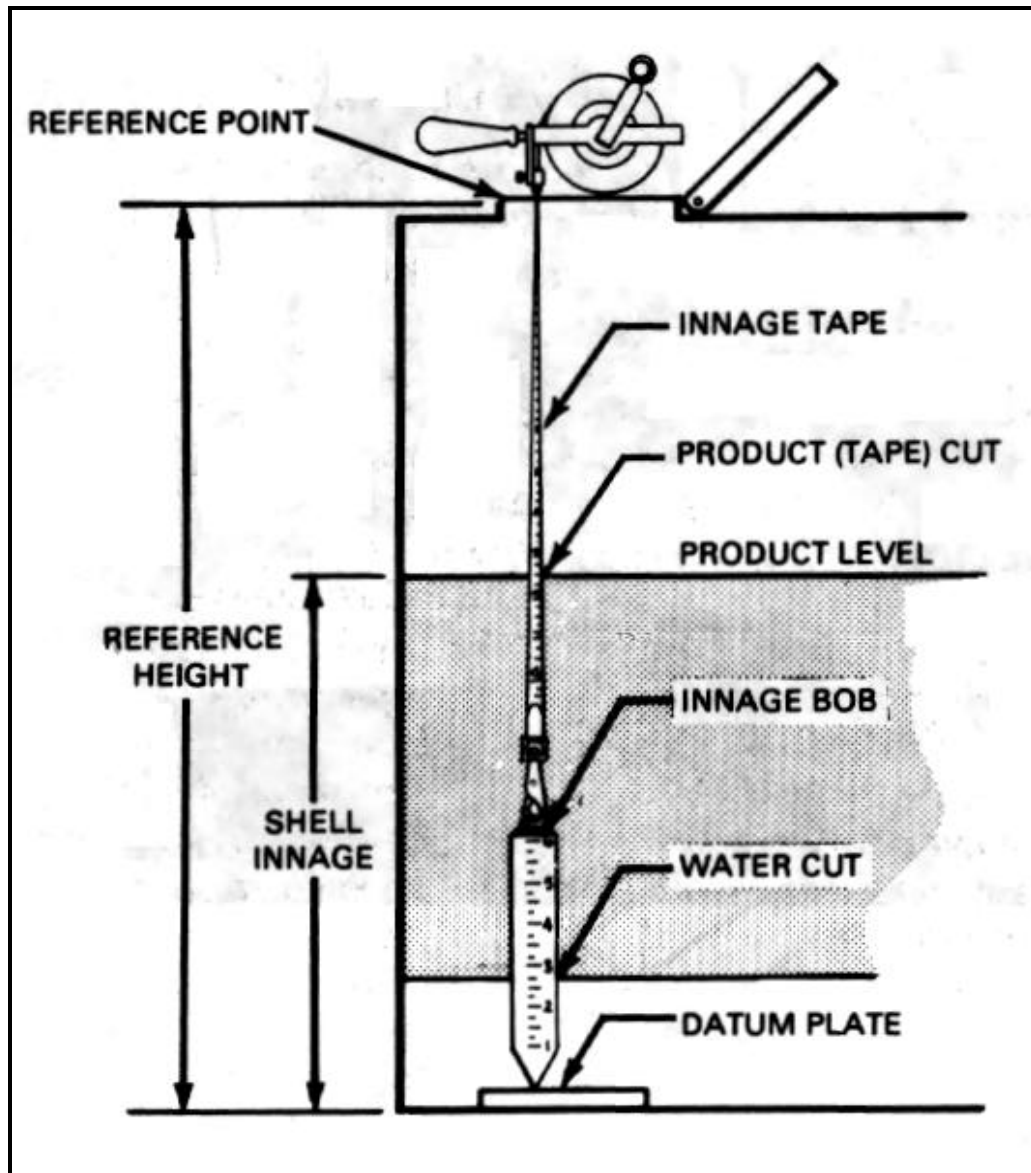

Figure 3-15. Taking an innage reading using an innage tape and bob
- Innage gage. Review the last innage gage sheet posted to determine expected product level before gaging a tank. To get an innage gage using the innage tape and bob, refer to Figure 3-15, page 3-15, and follow the steps below: